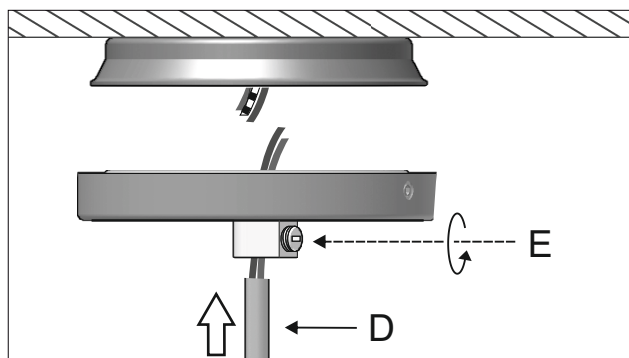

Figure 3
3 - Insert the lamp electrical cable (D) through the canopy and fix it with the cable ties (E). Figure 3.